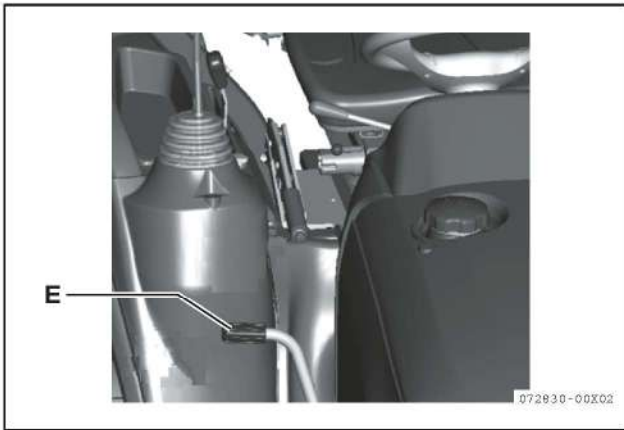

Fig 8-23
1. Push down Power Take Off (PTO) switch (Fig 8-23, B) to OFF position.
4. Move the range shift lever (Fig 8-23, C) to N (neutral) position.